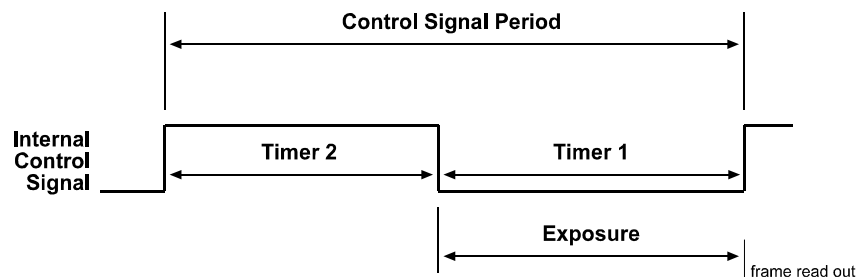

Figure 3-8: Free-run, Programmable Mode
- In **free-run, programmable** mode, the pixels are exposed and charge is accumulated when the internal control signal is low. The frame is read out and transferred on the rising edge of internal control signal (see Figure 3-8).